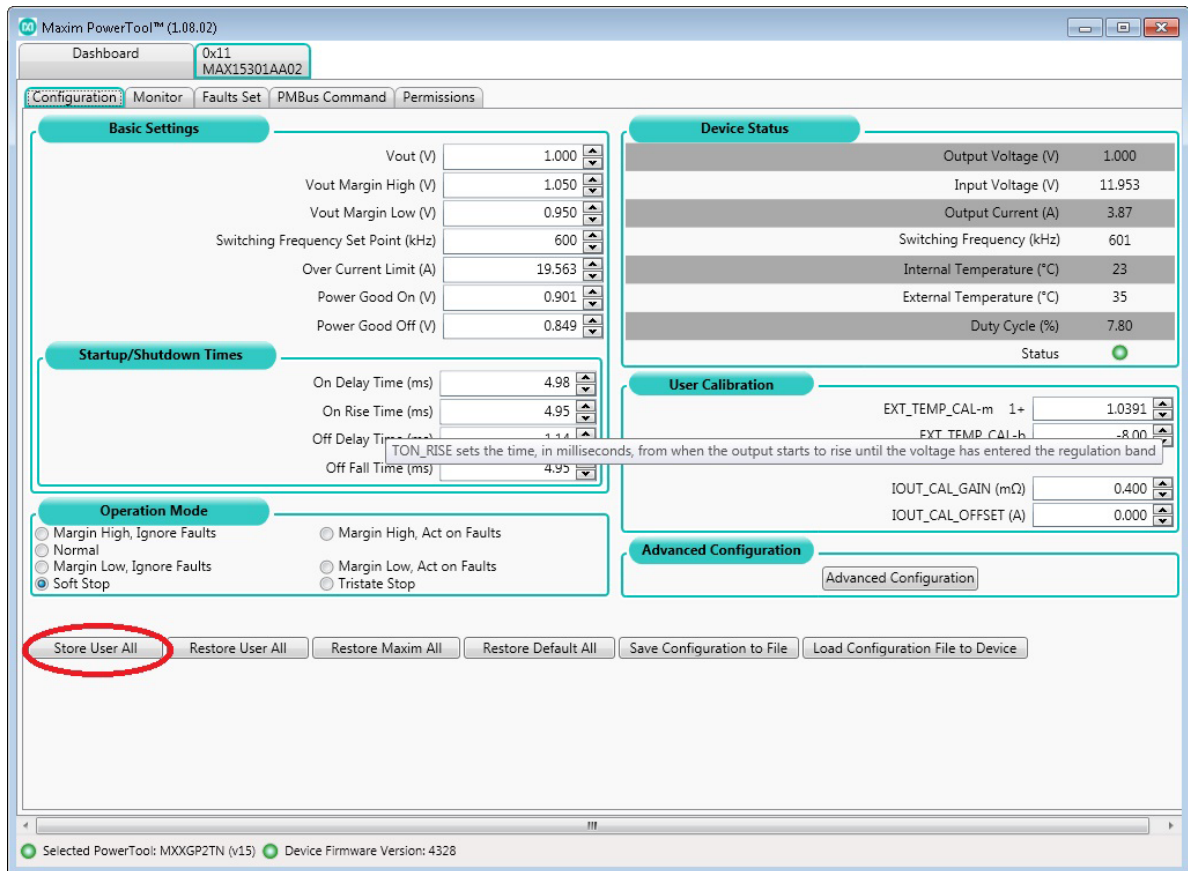

Figure 5. Enter the IOUT_CAL_GAIN and IOUT_CAL_OFFSET values.
8. Permanently store the **New IOUT_CAL_GAIN** and **New IOUT_CAL_OFFSET** values in the IC by clicking on the **Store User All** button in the GUI (**Figure 5**). Note that clicking on **Store User All** writes all the changed PMBus commands on the **Configuration** tab to the IC. If you wish to store the IOUT_CAL values but not disturb the rest of the settings, be sure not to change any other settings between the time that power is applied to the IC and the **Store User All** button is clicked.